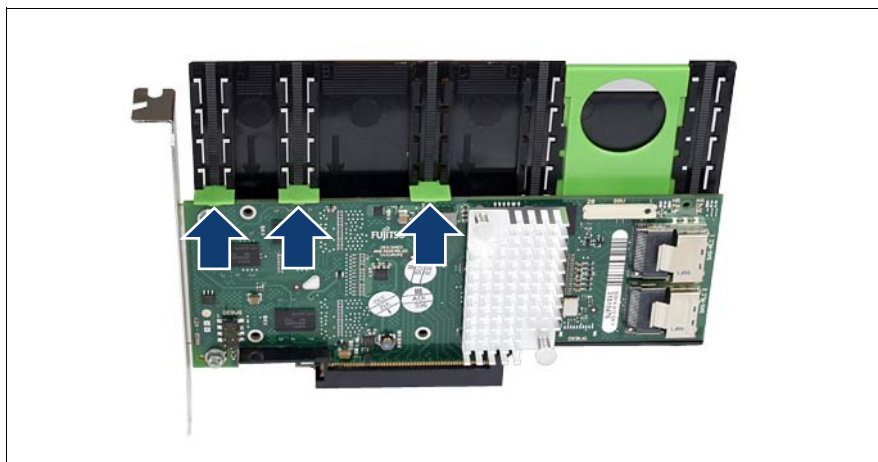

Figure 24: Removing the expansion card from the removal tool
When removing the expansion card from the removal tool, pay particular attention to the engaging hooks that fasten the board to the removal tool (see arrows in figure 24). Do not lift them by more than approx. 1 mm, in other words only as far until the expansion card is released. Otherwise you could damage the engaging hooks.
- ▶ Remove the dummy module in the same way as a PCI board (see figure 24 on page 104).